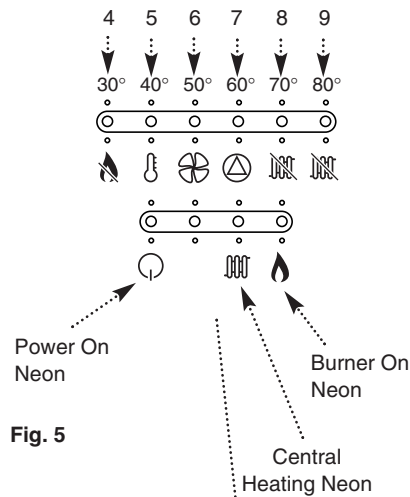

Fig. 5
3. The green power on indicator (Ⓞ) will illuminate (Fig. 5).
4. **On Position:** In this position the boiler will provide central heating or domestic hot water according to demand (Fig. 7). The boiler on (Ⓞ) will illuminate (Fig. 5). Neons 4 to 9 will illuminate as the temperature rises.
6. The orange burner on neon (🔥) will illuminate when the boiler is operating and the main burner is on (Fig. 5).